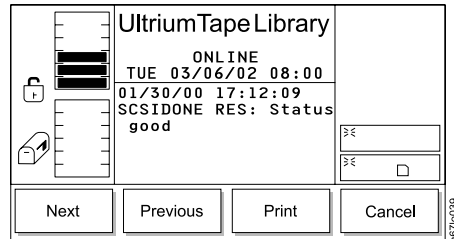

Figure 113. Command Log Dialog
3. Press the button below the **Command Log** softkey. The Command Log Dialog displays the date and time of the most recent library operation and any message text (see Figure 113). The screen presents one operation at a time. For each operation, the date is shown as mm/dd/yy, where mm equals the month, dd equals the day, and yy equals the year. The time is shown as hh:mm:ss, where hh equals the hour, mm equals the minute, and ss equals the second. The message text is useful to Engineering only.